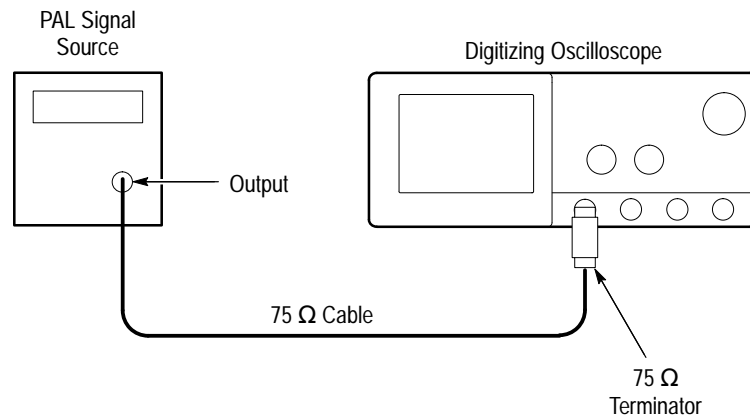

Figure 1-34: Line Count Accuracy Test Hookup
- Connect a composite output signal from the rear of the PAL signal source (labelled **COMPST** on the TSG 121) to the CH1 input through a 75 Ω cable and a 75 Ω terminator. See Figure 1-34.